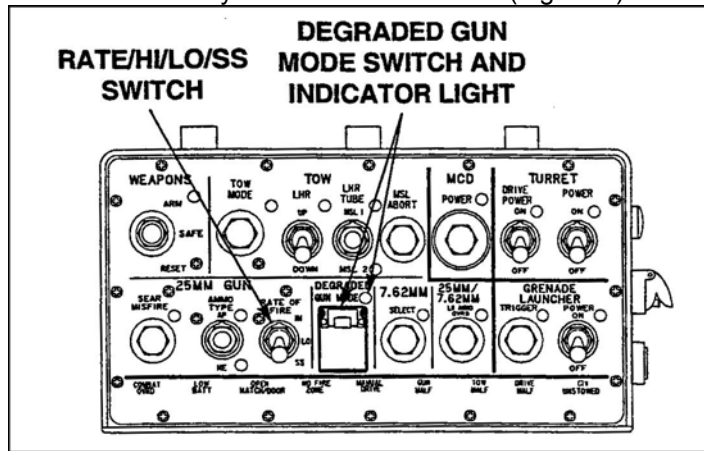

Figure 1. Rate of fire.
3. Move the rate of fire switch on the system control box to SS (Figure 1).